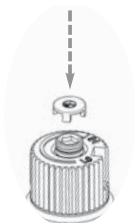

Fig.6
- 16) Reassemble the black protection cap (Fig. 6).